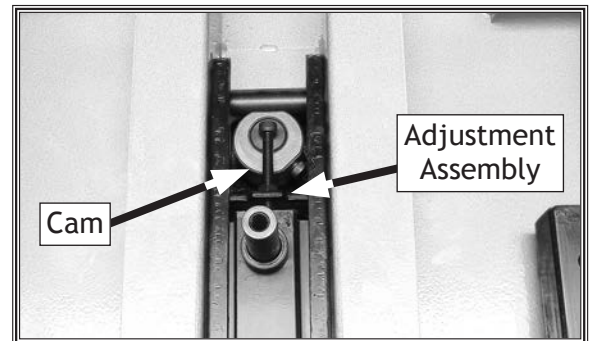

Figure 82. Lubrication locations for tension adjustment assembly (wheel removed for clarity).
3. Use a rag and mineral spirits to wipe off any grease and sawdust build-up on blade tension adjustment assembly and tension lever cam (see **Figure 82**), then apply thin coat of lubricant to these areas.